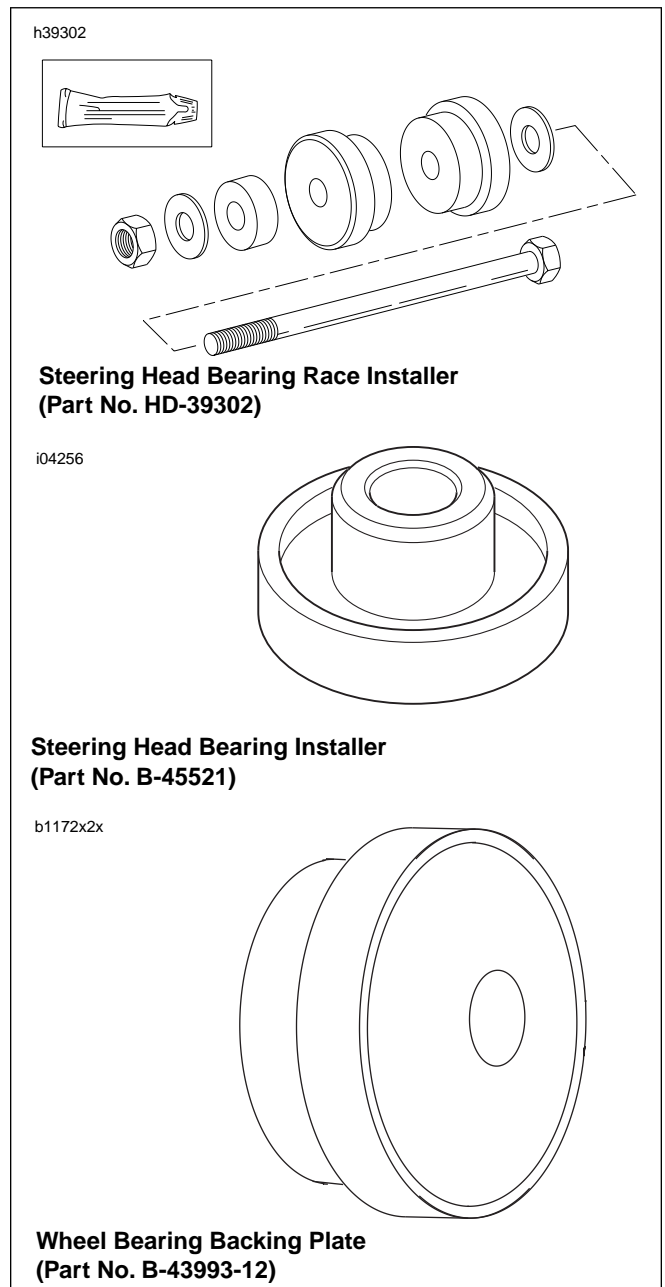

Figure 2-80. Steering Head Bearings Installation Tools
1. See Figure 2-80. Install **new** upper steering head bearing into the frame neck using STEERING HEAD BEARING RACE INSTALLER (Part No. HD-39302), the STEERING HEAD BEARING INSTALLER (Part No. B-45521) and backing plate (B-43993-12) from the wheel bearing installation kit.
- b. See Figure 2-80. Insert the steering head bearing installation tool into the upper bearing, with the shoulder into the bearing bore.